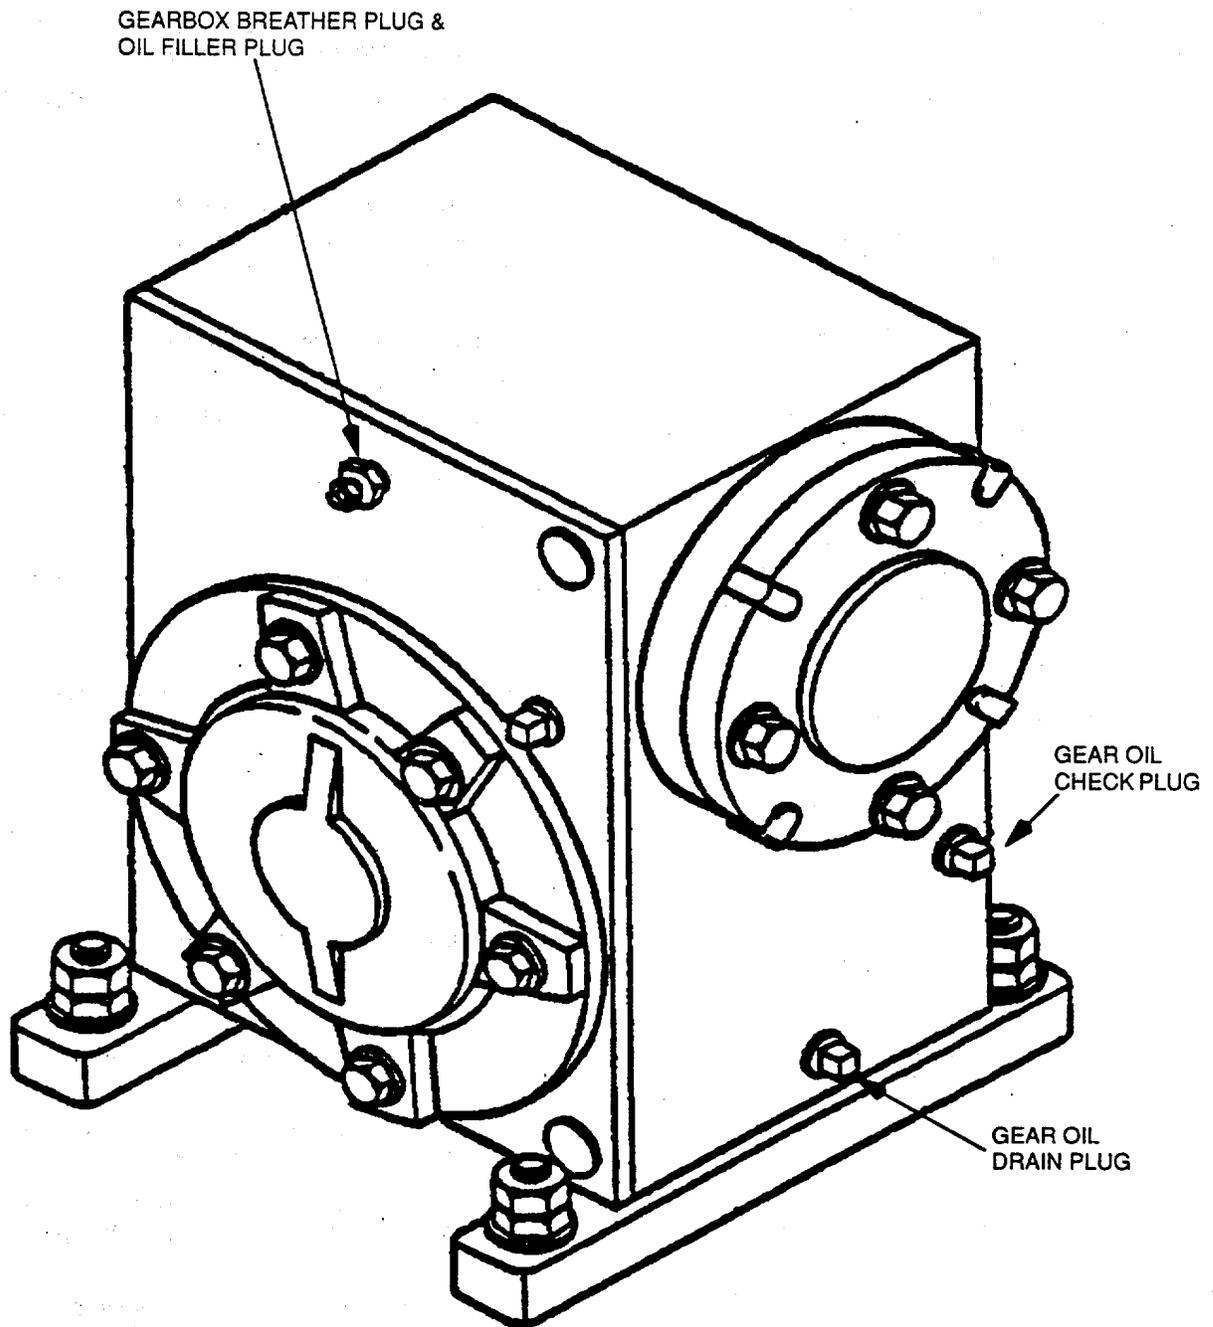

Figure 2-4. Servicing Points on Anchor Winch Gear Motor Reduction Box
- (1) Eight grease fittings on fairleader (two on each of four rollers).
- (2) Eleven grease fittings on levelwind traveler (two on each of four rollers and three on top of Barge 1 traveler). On Barges 2 and 3, traveler has four fittings on top instead of three.
- (3) One grease fitting on gear case (outboard) side.
- (4) Two grease fittings on brake (inboard) side (one on levelwind release mechanism, one on water end of cover on levelwind gears).
- (5) Three fittings on inside shaft behind the manual/power selector.
- (6) Levelwind compound helix shaft and guide bars.
- f. Check oil level in gear motor reduction box (see Figure 2-4).